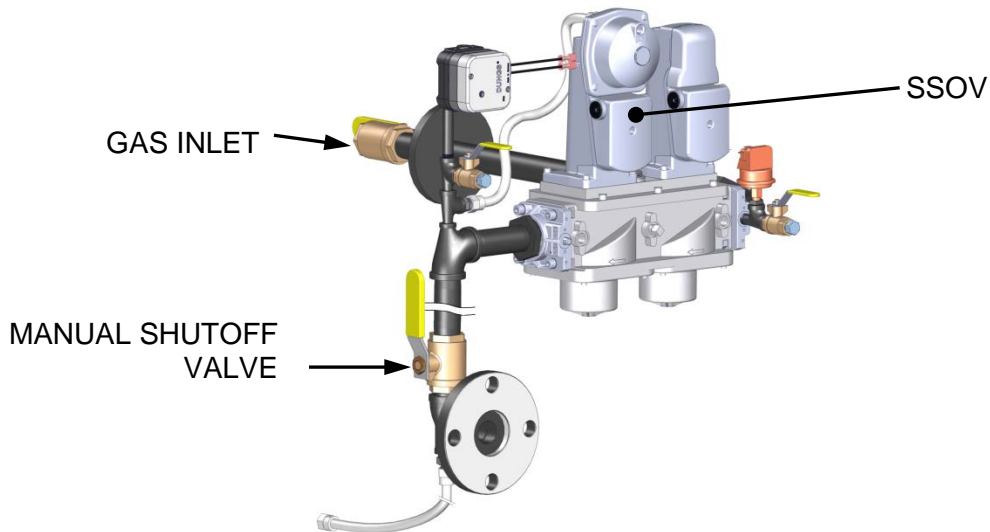

Figure 3-3. SSOV Location (Gas Train P/N 22282 shown)
2. The unit checks to ensure that the **Proof of Closure** (POC) switch in the downstream Safety Shut-Off Valve (SSOV) is closed. See Figure 3-3 for SSOV location.